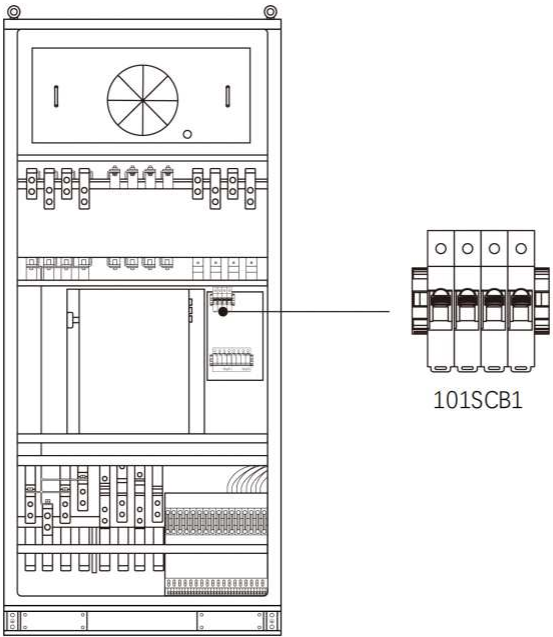

Figure.2
1. Turn on SPD breakers **101SCB1**. See the Figure.2.